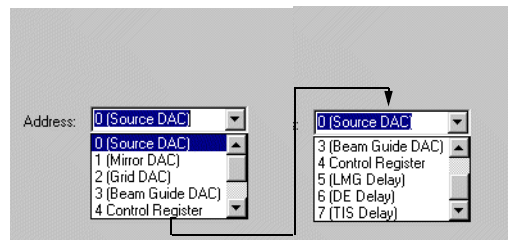

Figure D-2 Direct Bus Access Address Menu
1. Select the component you want to write to from the **Address** dropdown menu (Figure D-2).